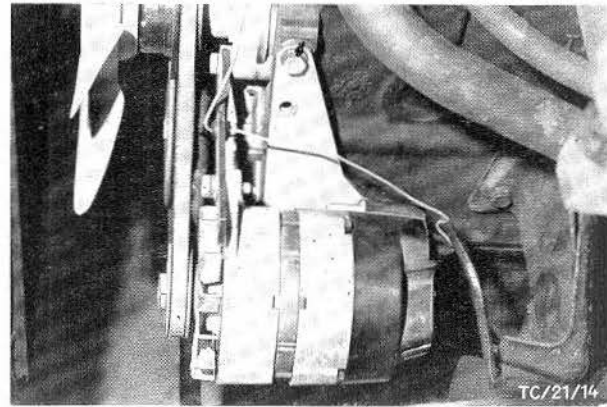

Fig. 20. Alternator mounting.
7. Slacken alternator bracket. Take off V-belt and remove alternator with its bracket (3 bolts), Fig. 20. Remove fan and pulley (4 bolts).